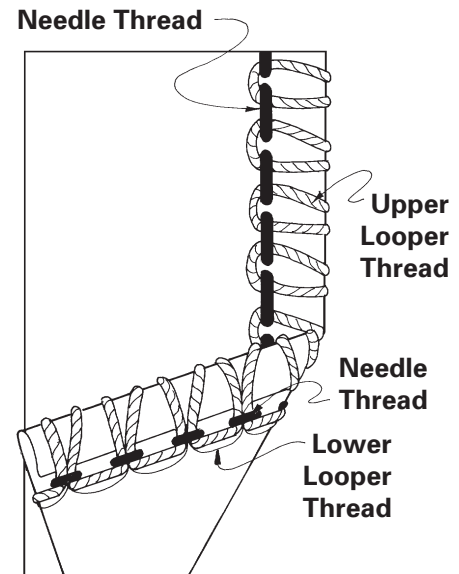

Fig. 24-10
- Tighten the lower looper tension to produce a rolled-under edge. (Fig. 24-10)